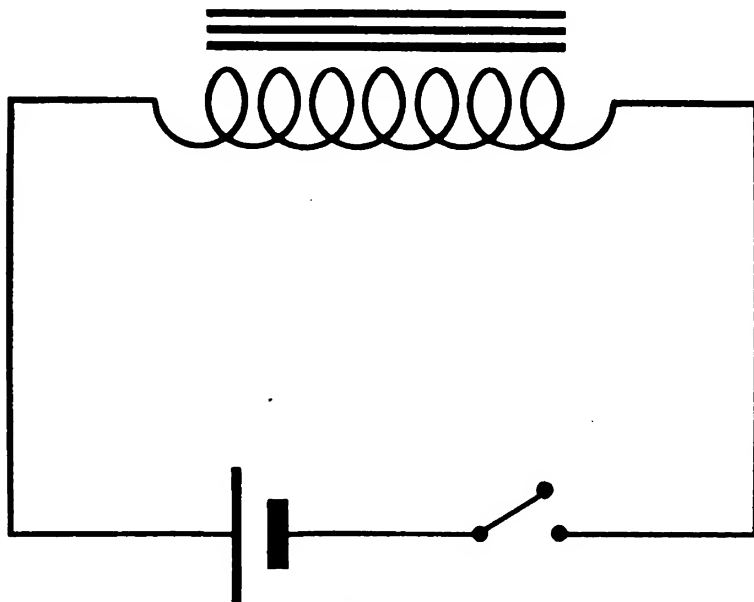
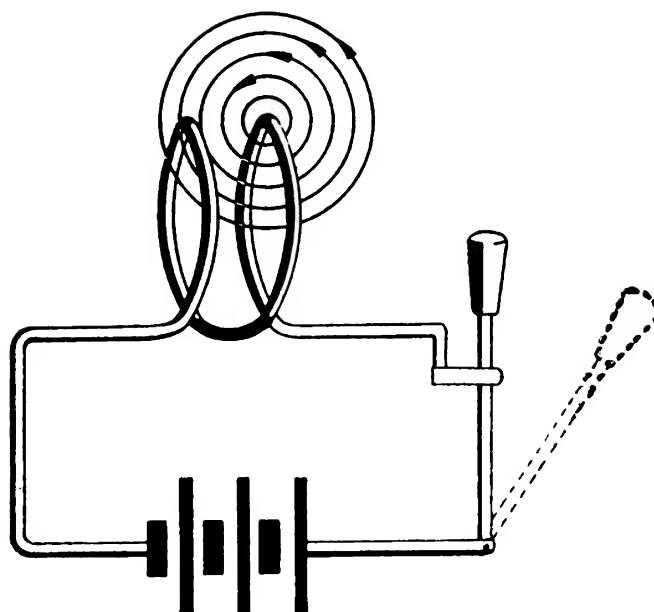
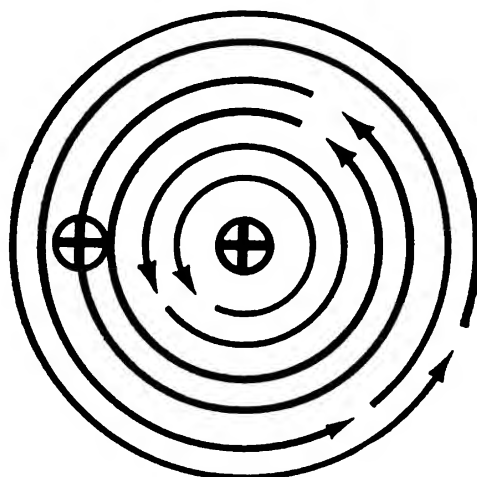

Figure 115.—Self induction circuits.
Figure 116.—Self induction in one turn.
Figure 117.—Self induction—cross-section.
There are only three items required to generate an induced voltage—(1) a conductor, (2) a magnetic field, (3) motion between the conductor and the field. These three items give you LINES OF FORCE CUT BY A CONDUCTOR. Look at figure 115—are these three items present in this circuit?
Figure 116 shows an enlargement of only two turns of the coil in figure 115. Flux is pictured blossoming out, from one of the turns. Notice how these lines are cut by the next turn. Now, applying the generator hand rule, determine the direction of the induced voltage. It's easier to use the rule on a cross-section of the coil like figure 117. Flux direction is down (first finger). Motion is to the RIGHT (thumb). (ATTENTION—the flux is moving across the conductor to the LEFT—the effect is AS THOUGH THE CONDUCTOR were moving